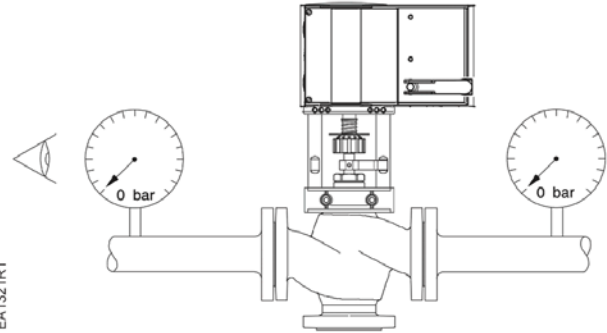

Figure 17.
1. Ensure that the differential pressure across the valve is zero. See Figure 17.